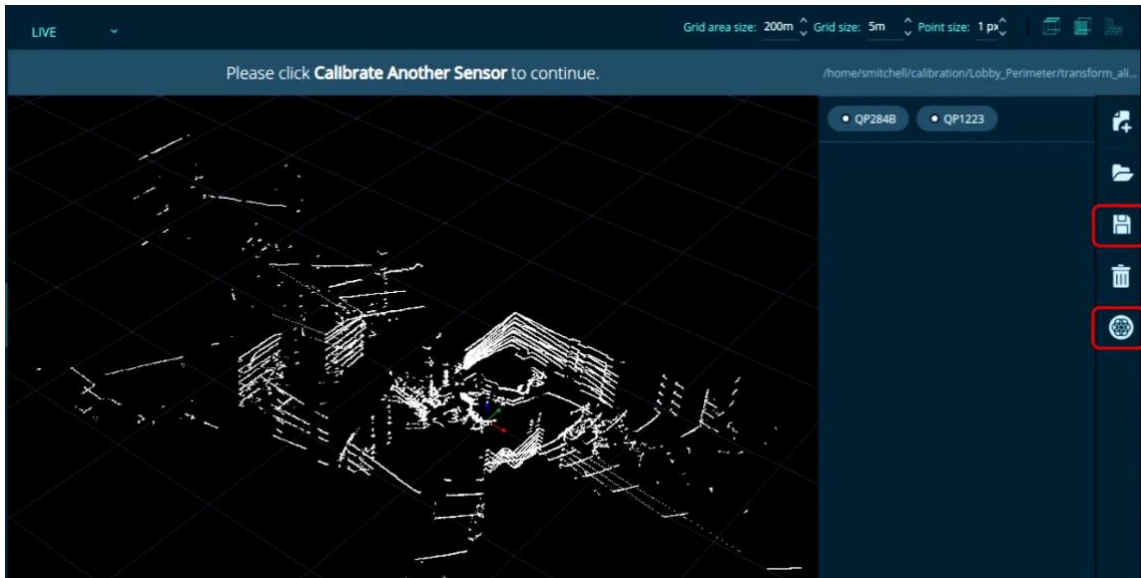

Figure 60. Calibrate Tab: Fused Cloud Icon Consolidates into Single White Point Cloud
11. Click the **Save**  icon to save the calibration data in the folder that was identified previously. See Figure 60. Calibrate Tab: Fused Cloud Icon Consolidates into Single White Point Cloud.
- A fused cloud, where all points turn **white**. See Figure 60. Calibrate Tab: Fused Cloud Icon Consolidates into Single White Point Cloud.